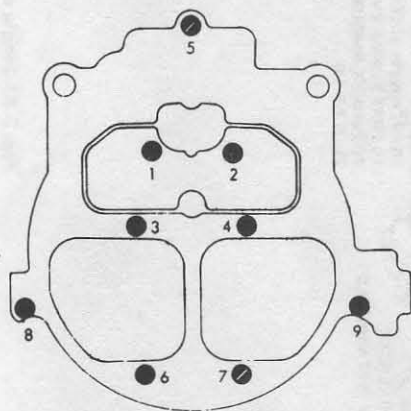

Fig. 3.59 Tightening sequence of air horn securing screws (Rochester Quadrajets 4MV carburetor) (Sec. 24)
- 24 Reassembly is the reverse of the dismantling procedure. Use all the items in the repair kit. During assembly carry out the settings and adjustments described in Section 18. When installing the idle mixture needles and springs, turn them in until they are just seated and then back them off $1\frac{1}{2}$ turns for an initial setting. Tighten the air horn securing screws in the sequence shown in Fig. 3.59.